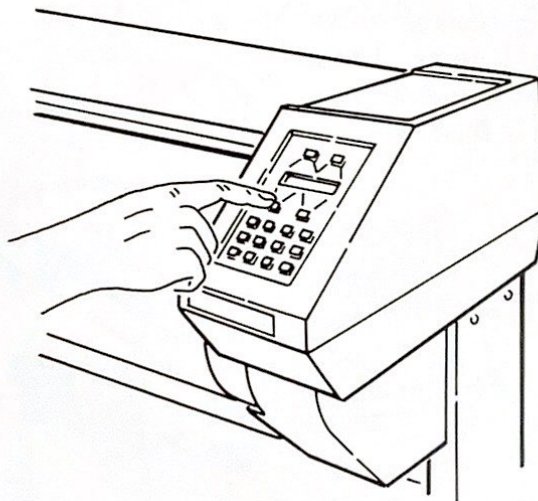

Figure 5-16. Media Take-up Soft Keys
6. Press any soft key on the control panel and hold down for about five seconds (see Figure 5-16). This causes approximately five feet of media to wind up on the front take-up core. This length of media is a buffer necessary to insure the media is not pulled off the take-up core during the media sizing operation.